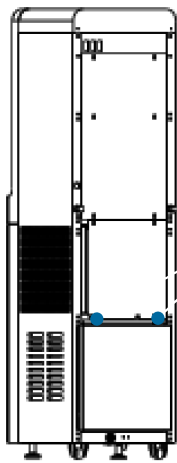

Figure 6 · Unscrew the screws of the rear cover
2. Using a screwdriver, or by hand, remove both screws from the back cover (Figure 6).